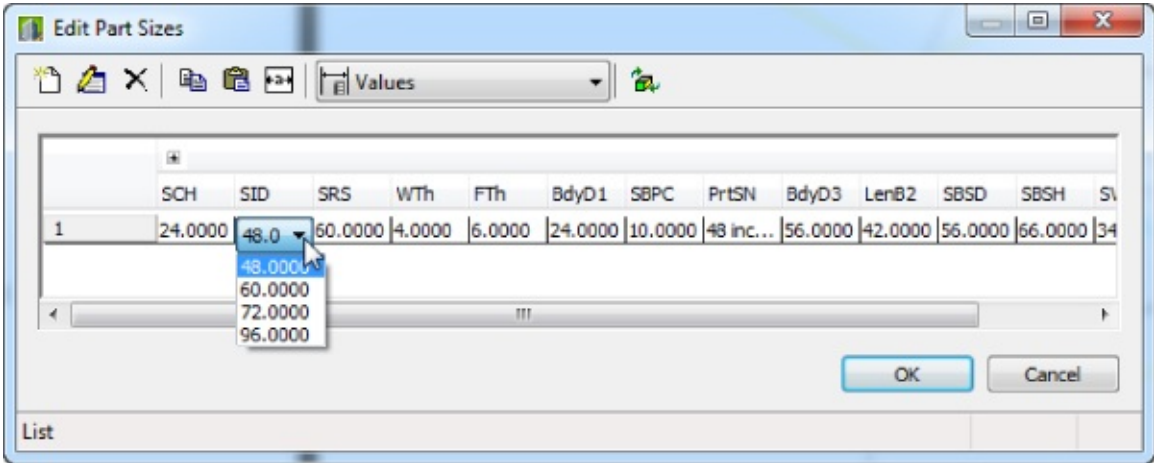

Figure 13.102 Examining the available part sizes
10. Locate the SID column (see Figure 13.102), and double-click inside the box.